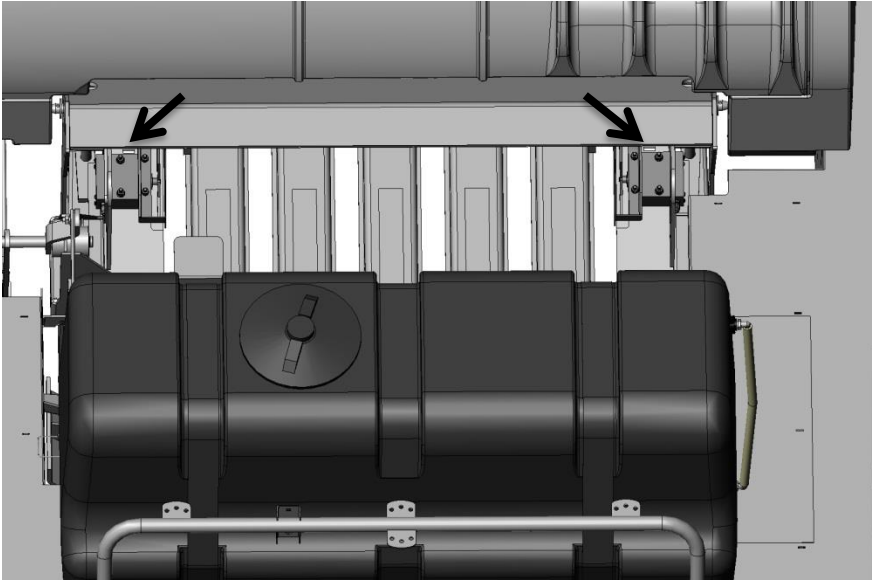

Figure 8
2. Directly behind the knotters, locate the four predrilled holes per side shown at the arrows. This location is also beneath the lift points on top of the baler. Figure 8
4. Install the star wheels below the lift points on the baler. Figure 8 & 9